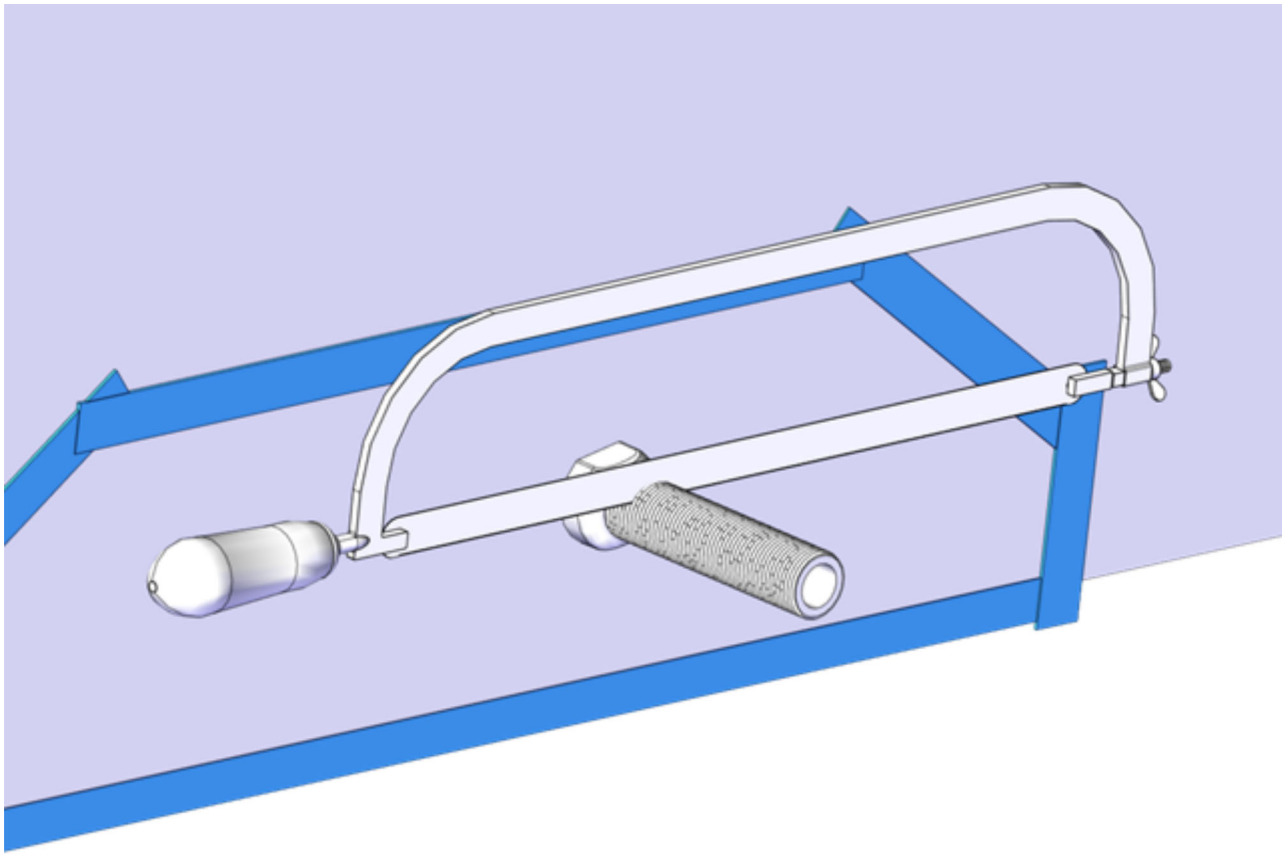

Figure 50 – Cable Gland Trimming
6. Cut off the excess threads on the outboard side using a hacksaw or oscillating tool (Figure 50 – Cable Gland Trimming).
7. Hold the Inner Cable guide up to the Cable Gland in the desired mounting location. Mark the locations of the two (2) mounting screws and drill 3/32 in. (2.4 mm) pilot holes in these locations.
8. Inject sealant in both pilot holes. Use a screwdriver to install the two (2) No. 8 x 1-1/2 in. screws to mount the Inner Cable Guide.